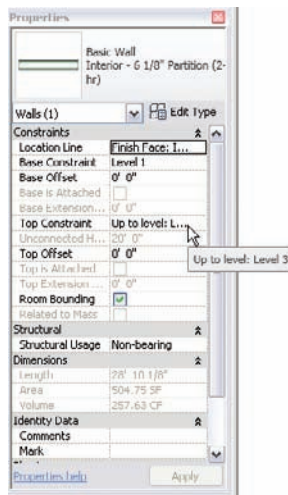

FIGURE 3.50 Choosing the properties to change a wall's constraints is becoming old hat!
2. In the Properties dialog, change Top Constraint to Up To Level: Level 3, as shown in Figure 3.50.